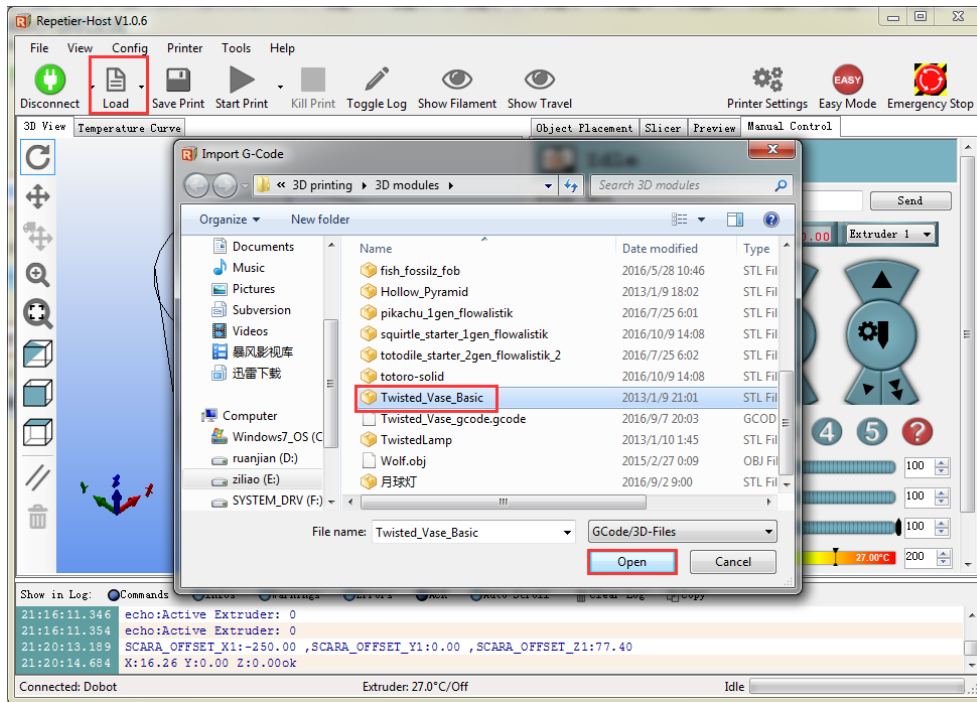

Figure 5.96 Import 3D printing model
**Step 6** Click **Load** to import the prepared 3D printing model, as shown in Figure 5.96. The format of 3D model is **STL**. You can design 3D model and transform it into STL format.